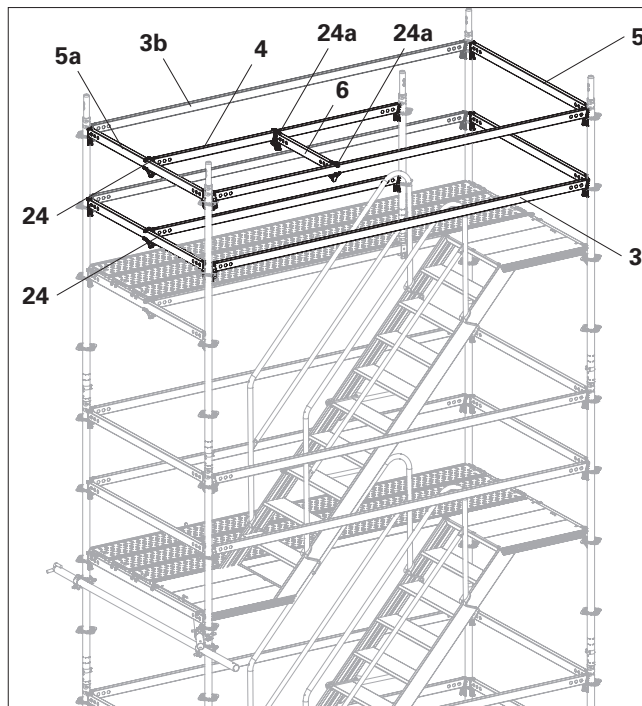

Fig. A5.04
14. For bracing, fit a Horizontal Ledger UH-2 75 (**6**) between the horizontal ledgers (**3 + 4**) using ledger-to-ledge couplers (**24a**). (Fig. A5.04)